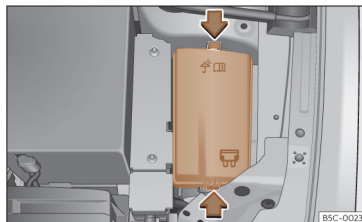

Fig. 214 In the engine compartment: lid of the fuse box.
- Press the locking tabs to unlock the fuse box cover >>> **Fig. 214**.